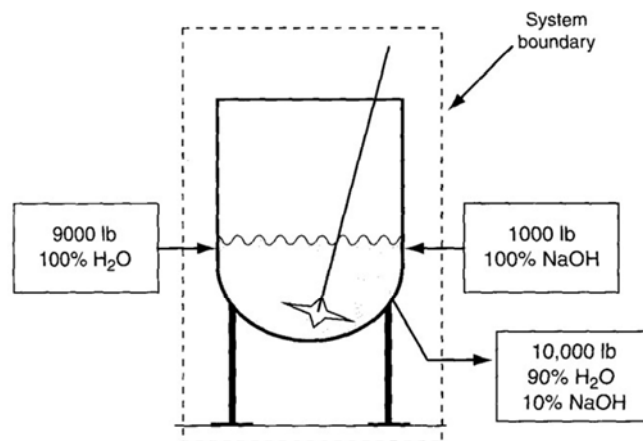

Figure 6.12 The batch process in Figure 6.11 represented as an open system.
- ◆ We can summarize the **hypothetical operation** of the **batch** as a flow system (open system) as follows (**Figure 6.12**):